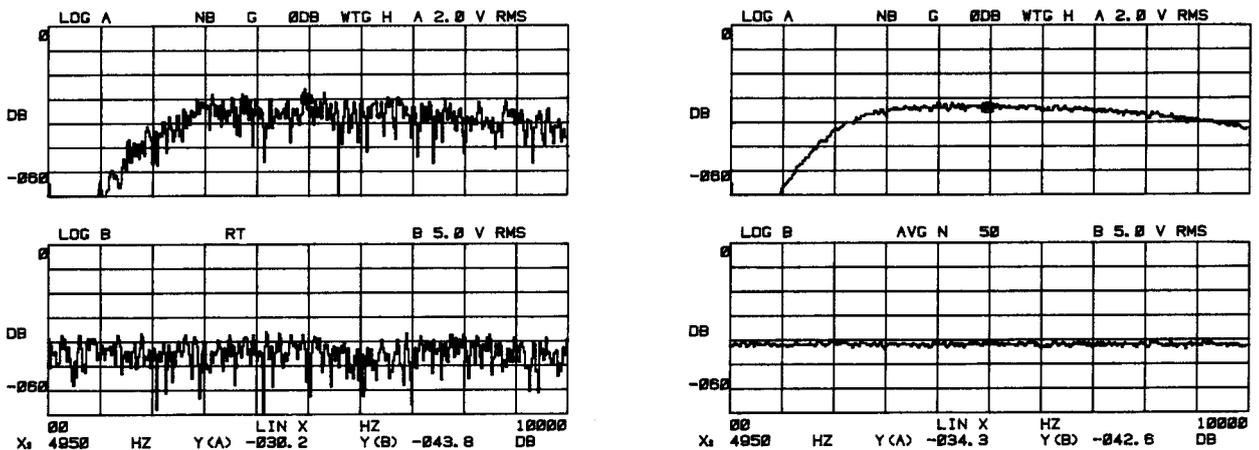

Figure 3-15. Examples of Real Time and Averaged Data.
Figure 3-15 is an example of the averaging process showing the same data both Real Time (RT) and averaged. The input is random noise, externally filtered on channel A and unfiltered on channel B. The display on the left is the real time data display, the one on the right is averaged data after taking a Linear average of 50 ensembles.